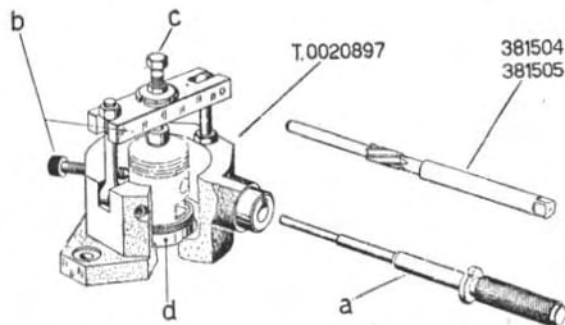

Fig. 24 - Piston bore oversizing
(Fig. 24) when an o/size wrist pin is to be assembled (see below)
- Fix part T 0020897/1 (« d » on Fig. 24) in its housing on the base of the tool, and secure the piston thereon.